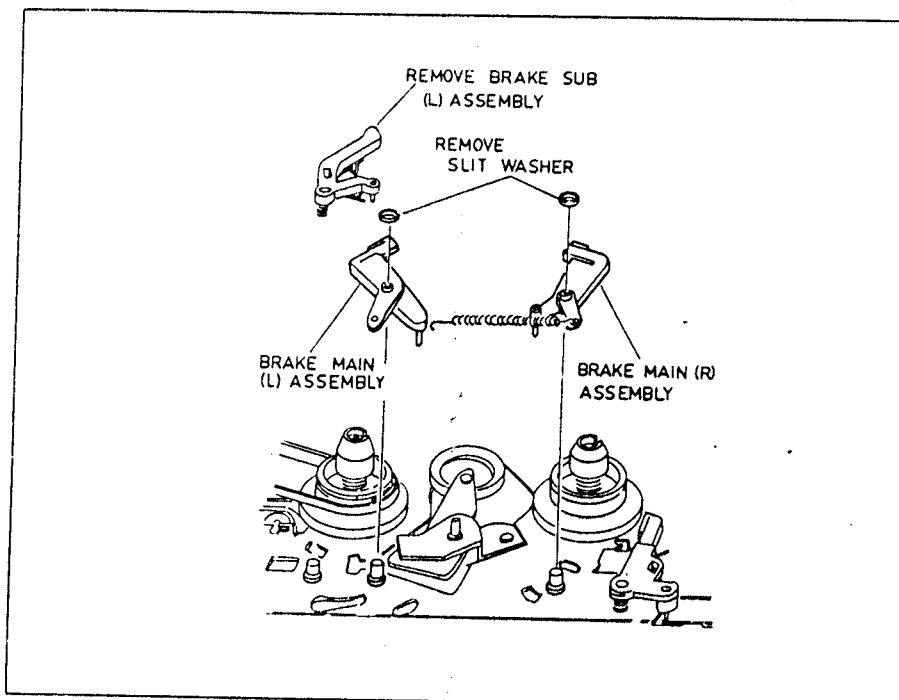

Fig. 29 Brake Main (L) Assembly and Brake Main (R) Assembly Removal
2-2-11. Brake Main (L) Assembly and Brake Main (R) Assembly Removal (Fig. 29)